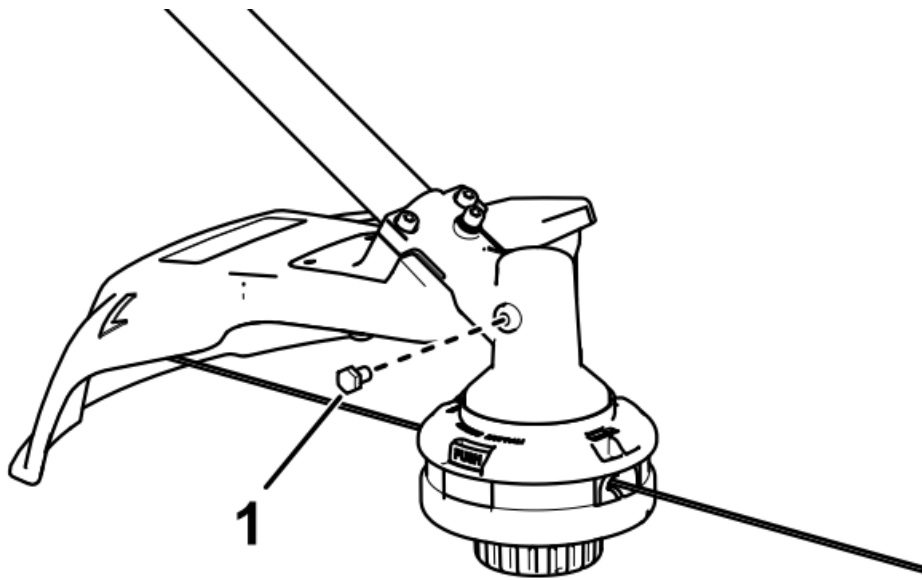

Figure 13
3. Remove the plug from the side of the trimmer (Figure 13).